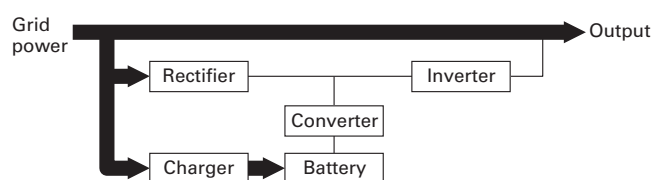

Fig. 3 The power supply path for the Economy mode
(2) Economy mode (High-efficiency mode)
Figure 3 shows the power supply path for the Economy mode. When the grid power is stable, the inverter stops, allowing the grid power to be output as is. This eliminates the loss through the inverter and increases efficiency. The batteries are constantly float-charged by the charger so that they stay charged and ready for a power grid failure such as a power outage or voltage dip. When the grid power becomes unstable, the UPS automatically transfers to the Double Conversion mode described in the (1) above. This is done without interruption if the input frequency is within the synchronization range, or there will be an interruption within 8 ms if it is outside the range.